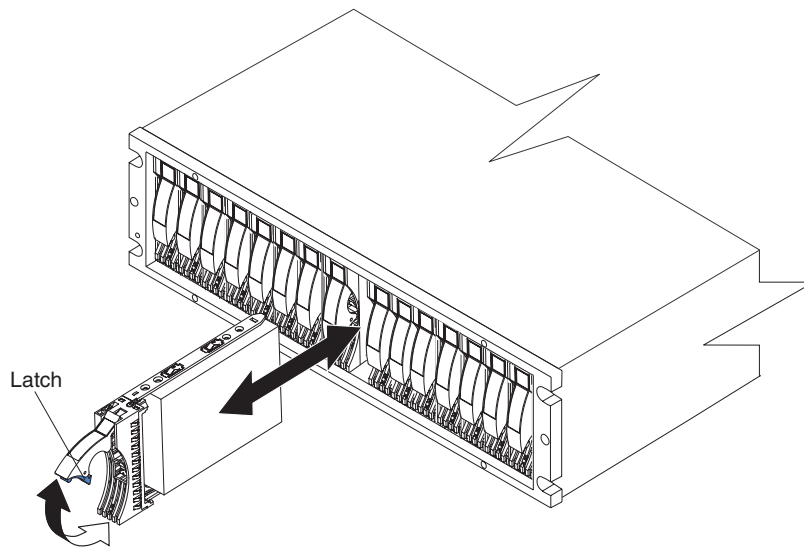

Figure 23. Replacing an E-DDM
1. Lift up on the handle and gently push the E-DDM CRU into the empty bay until the hinge of the tray handle latches beneath the storage subsystem bezel, as shown in Figure 23.